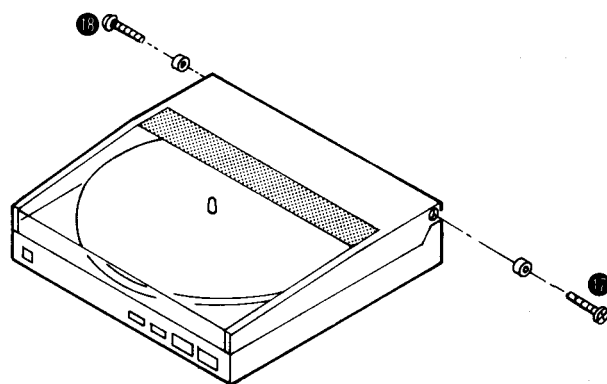

Fig. 6
4. Remove the 5 setscrews of the dust cover. (Fig. 6 : ⑰, ⑱ and Fig. 7 : ⑲ ~ ⑳)